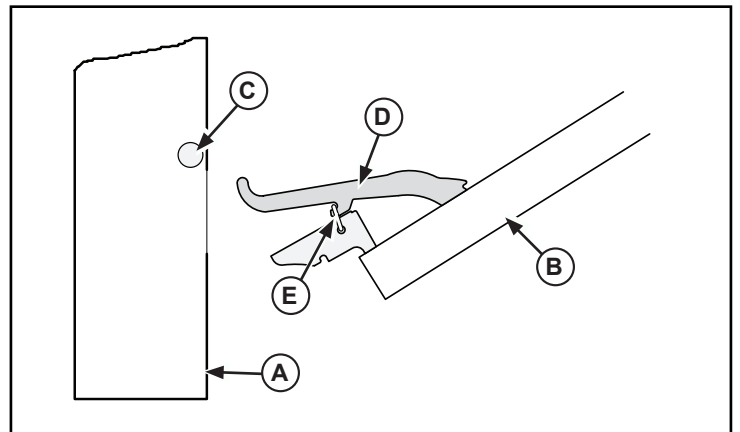

Figure 3. Oven Door removal and Installation
7. Tilt the oven door (B) up slightly and lift the oven door out. See Figure 3.
29. Carefully set the oven door (B) into the oven (A). Place the arm (D) so that it sets under pin (C). See Figure 3.